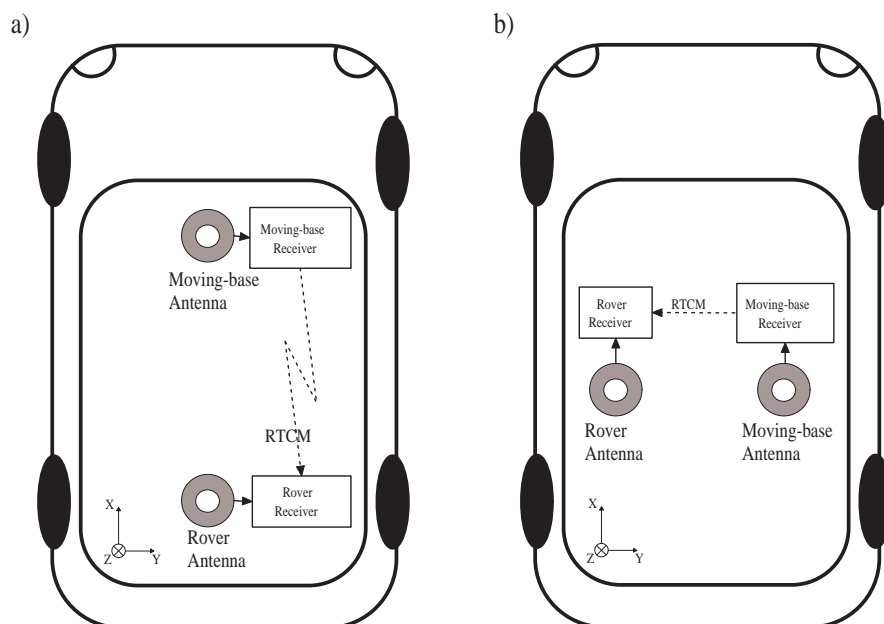

Figure 1-4: Moving-base attitude determination setup. a) default configuration. b) example of non-default configuration.
The heading and pitch of a vehicle can be derived from the orientation of the baseline between a base and a rover antenna when both antennas are attached to the vehicle. The base antenna is connected to a first receiver configured as RTK moving base station. The rover antenna is connected to a second receiver configured as RTK rover and accepting the RTCM stream from the first receiver. This is illustrated in Figure 1-4.
1. Attach two antennas to your vehicle. The default antenna configuration is as depicted in Figure 1-4 a). It consists in placing the antennas aligned with the longitudinal axis of the vehicle. If such configuration is not possible, you will have to provide additional information to the receiver, as explained below. For best accuracy, try to maximize the distance between the antennas, and avoid significant height difference between them.
is in front of the rover antenna (see Figure 1-4 a)). If you cannot place the antennas in such configuration, the reported attitude angles will be biased. There are two ways to remove these biases:
- (a) The biases can be removed by telling the receiver where the moving-base antenna is located in the vehicle reference frame (see appendix A). This is done by specifying the coordinates of the baseline between the rover antenna reference point (ARP) and the moving-base ARP in the X, Y and Z directions. For example, in the configuration b) of Figure 1-4, assuming that the distance between the antenna ARPs is 1 meter, you would issue (on the rover receiver):